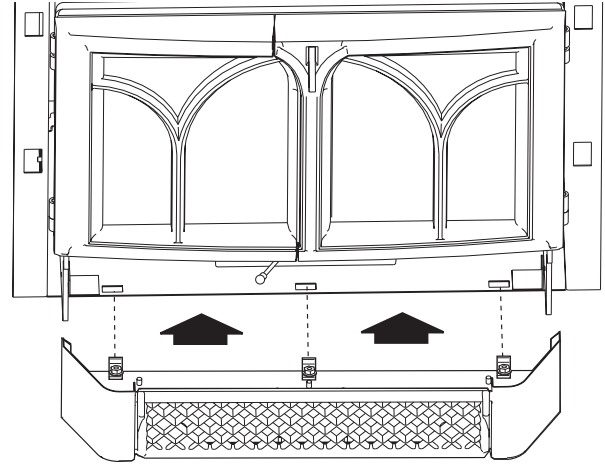

Figure 16. Attach the Ashlip Extension to the Firebox base. Be sure that the clips slide OVER the front edge of the bottom plate, not under it.
1. Engage the three spring clips on the Extension Base with the adjoining cutouts on the firebox base. Align the clips with these slots and push the Extension to snap it together with the base of the firebox. The clips should slide over the front edge of the bottom plate to engage with the cutouts. See fig. 16.